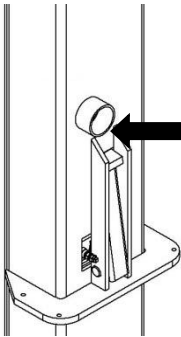

FIGURE 24 : COUVERT DE PROTECTION
- 1. COUVERT DE PROTECTION ROUGE AU NIVEAU DE LA VALVE DE NIVELAGE SUR LA COLONNE MAITRE. VOIR **FIGURE 24**.